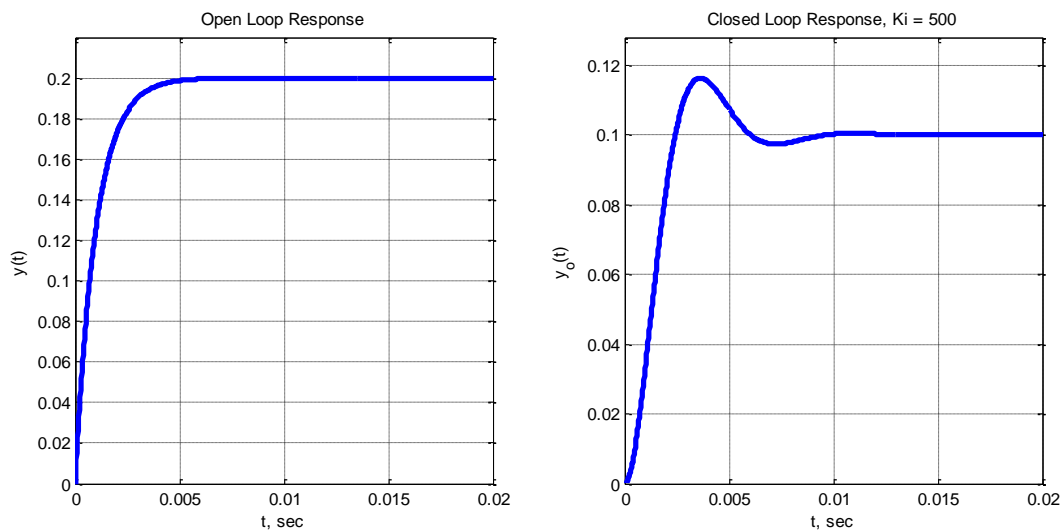

Figure 3: Integral Control
3. You should note that the settling time is now larger, the reference input ( $A = 0.1$ ) is matched perfectly. However, as we increase the integral gain,  $K_i$ , the percent overshoot increases. The correct response for the second controller is shown in Figure 3.